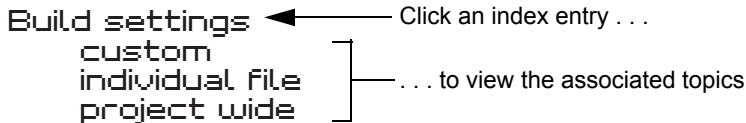

Figure A-26. Index Entries on the Index Page
- An index entry on the Index page (Figure A-26)